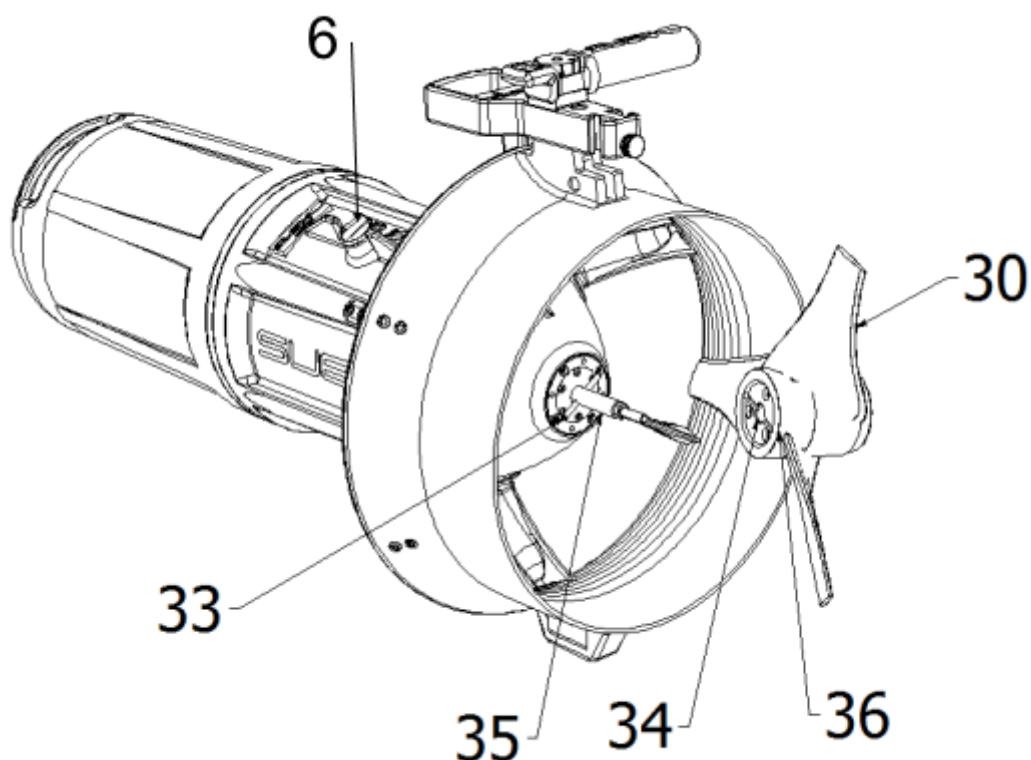

Fig.9 - Insertion of the propeller
Insert the propeller (hole 36 - Fig.9) in motor shaft of the Scooter (35), turn the propeller (clockwise) until the pin (33) matches the seat (34) propeller. When you hear a click, the propeller will stop turning. Continue by turning (CLOCKWISE) the switch (6) with the finger only, WITHOUT FORCING.